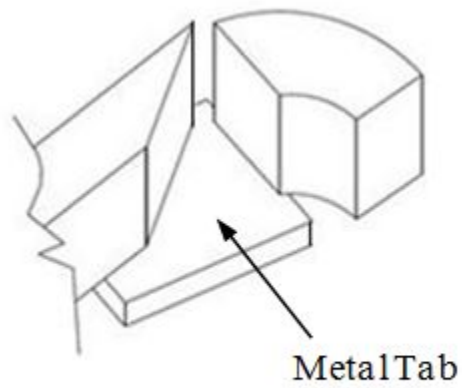

Figure 108I *Metal Tab Position*
5. If needed, use a metal tab at the bottom of the groove to start vertical progression up. (See Figure 108I)